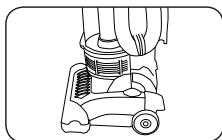

Fig. 2
2. Upright position – for storage or when cleaning tools are used (Fig. 2). The handle locks in this position.